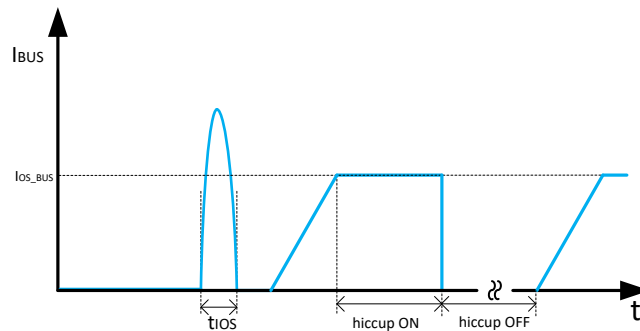

图 10-5. Response Time to BUS Short-Circuit
- The first condition is when a short circuit or overload is applied to the USB output when the device is powered up or enabled. There can be inrush current and once it triggers the approximate 8-A threshold. A fast turnoff circuit is activated to turn off the USB power switch within t_{IOS_USB} before the current limit control loop is able to respond (shown in 图 10-5). After the fast turnoff is triggered, the USB power switch current-sense amplifier is over-driven during this time and momentarily disables the internal N-channel MOSFET to turn off USB port. The current-sense amplifier then recovers and ramps the output current with a soft start. If the USB port is still in overcurrent condition, the short circuit and overload hold the output near zero potential with respect to ground and the power switch ramps the output current to I_{OS_BUS} . If the overcurrent limit condition lasts longer than 4.1 ms, the corresponding USB channel enters hiccup mode with 524 ms of off-time and 4.1 ms of on-time.